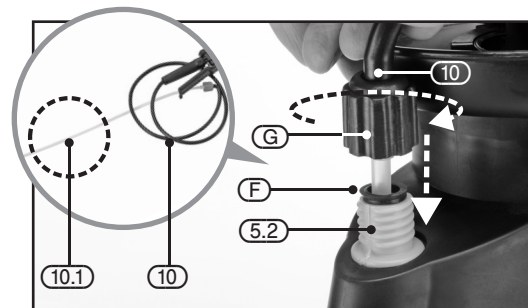

FIG.12
8.5 ATTACHING THE HOSE – FIG. 12
- If not already in place, make sure the rubber seal (F) is in situated on the hose inlet (5.2).
- Insert the suction tubing (10.1) of the hose (10) into the spray bottle through the hose inlet (5.2).
- Screw the compression fitting (G) to secure the hose in place.